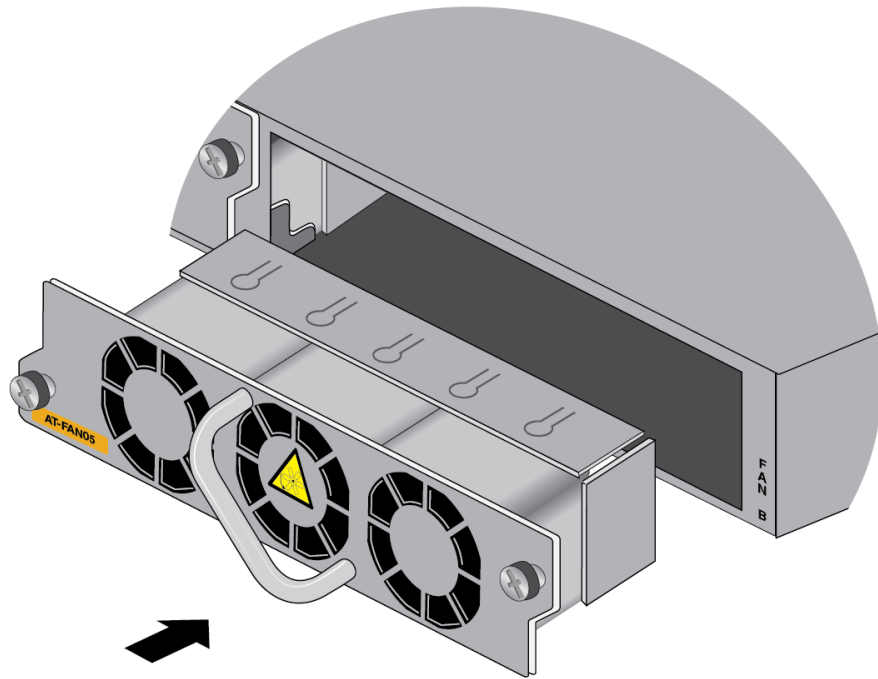

Figure 157. Aligning the FAN05 Module in the Switch Slot
2. Align the fan module in the slot. Refer to Figure 157 on page 258.